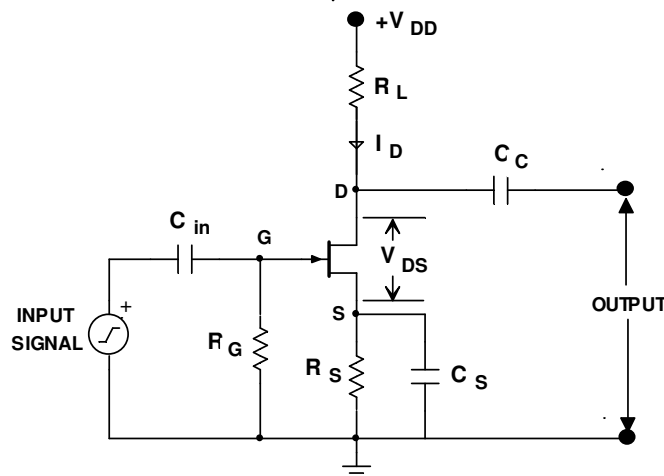

Fig. 19(a)
- (1) MOSFET is used in Sample and Hold circuit as a switch.
- (2) P-MOSFET and N-MOSFET are used in digital logic circuits
- (3) C-MOSFET is very popular in fabricating of MSI and LSI technology.
**Q.19** Draw a single stage amplifier circuit using JFET and explain the purpose of each component Used. **Marks (7)**
**Ans:** The circuit of a **Single Stage Common Source N-channel JFET** amplifier using self bias is shown in fig. 19(a)